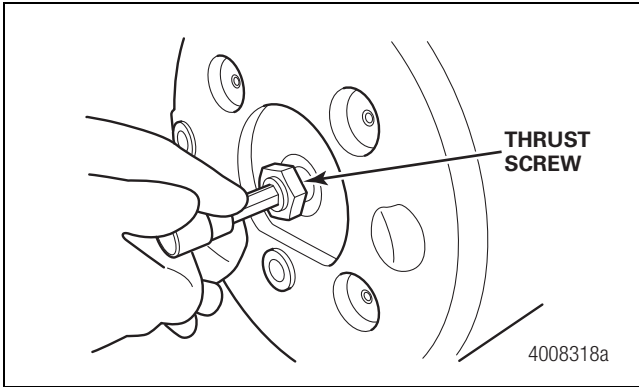

Figure 5.3
2. If necessary, remove the thrust screw from the planetary assembly. Figure 5.3.